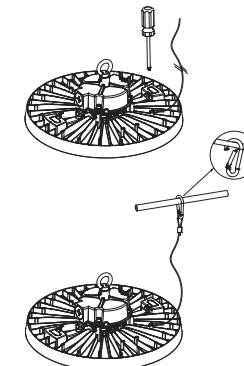

Figure 15
Step 1. Fix the safety rope on the lamp body with screws. (Figure 15)